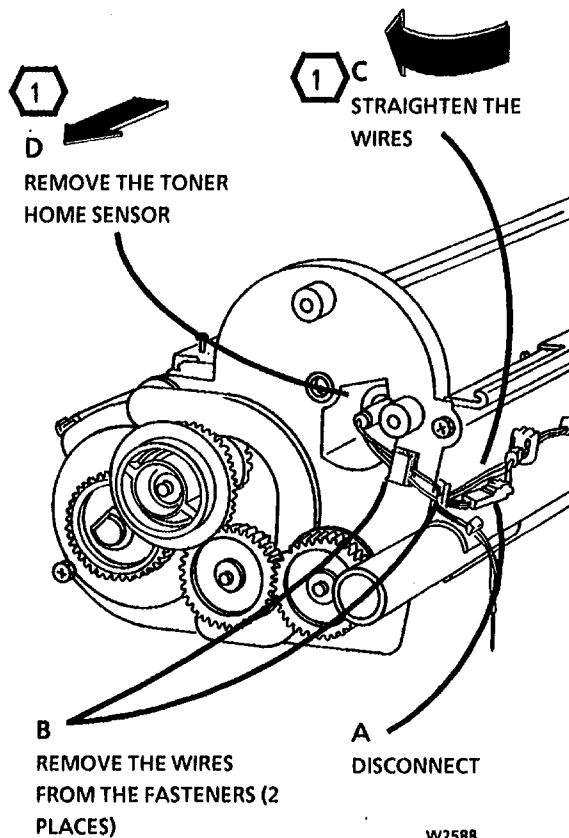

Figure 1. Remove the Toner Home Sensor
2. (Figure 1): Remove the Toner Home Sensor.